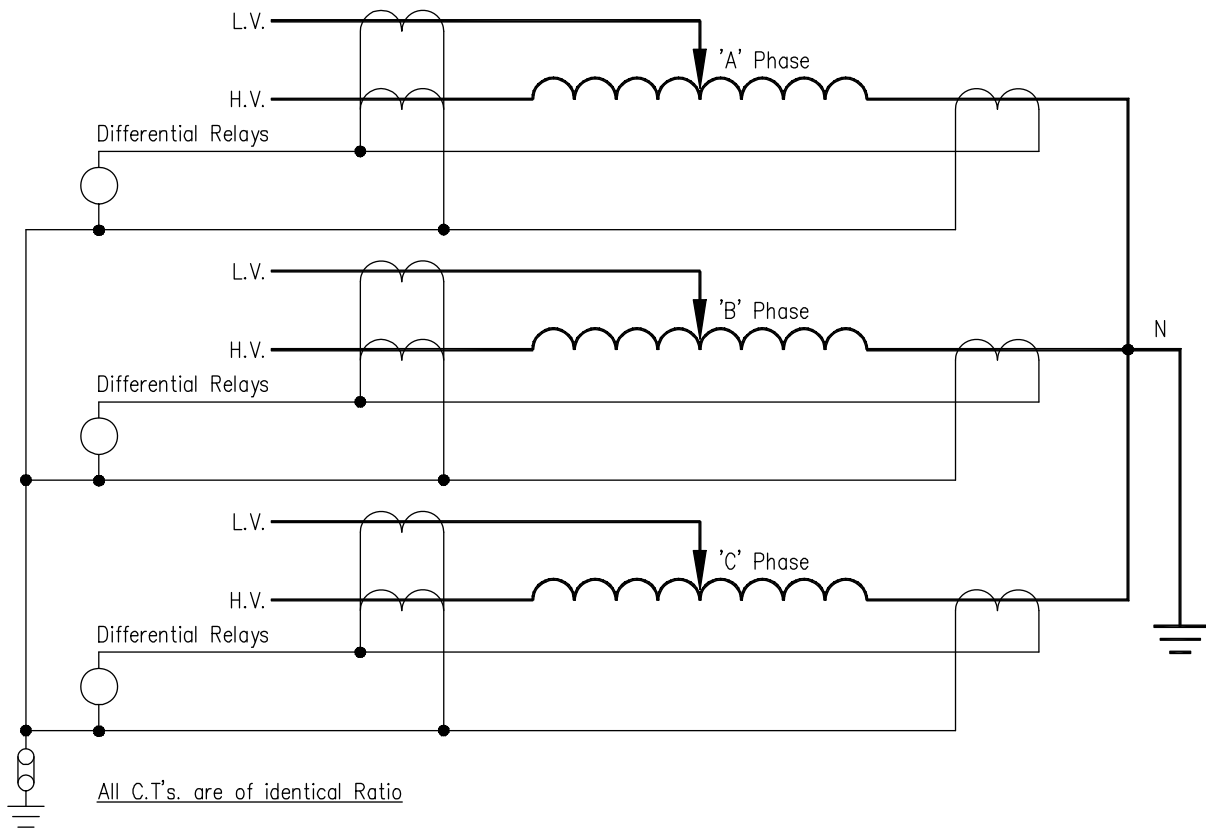
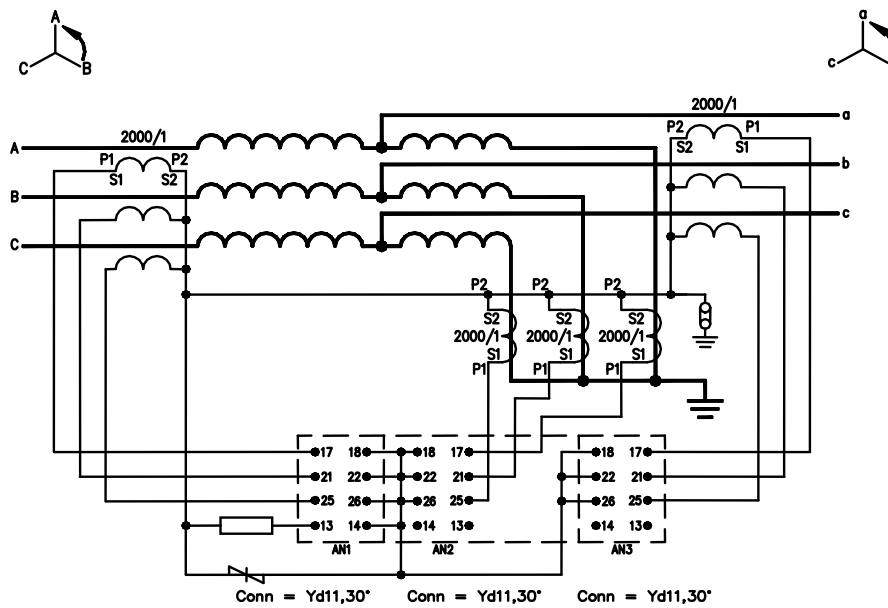
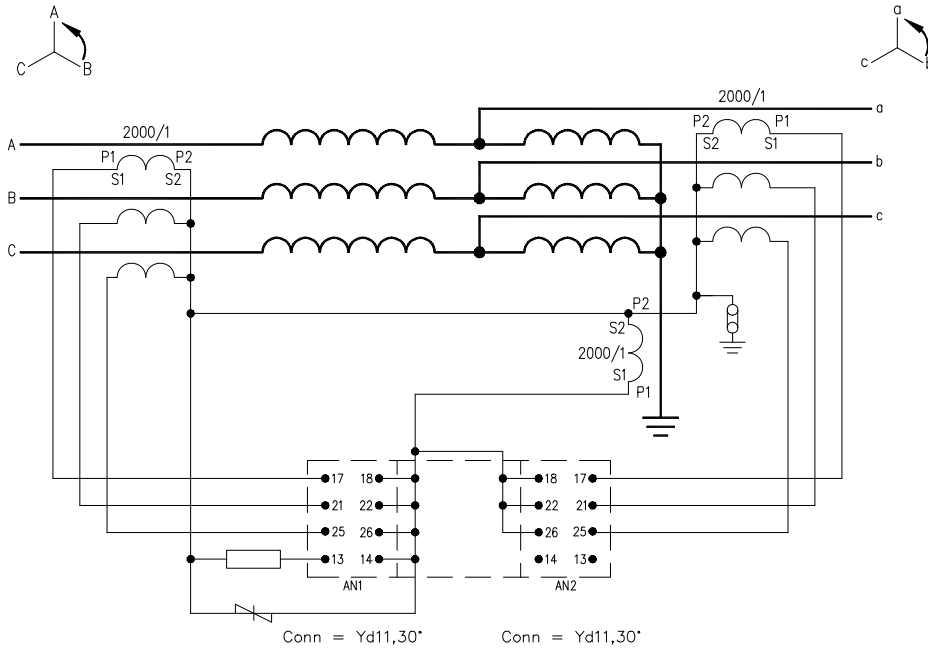
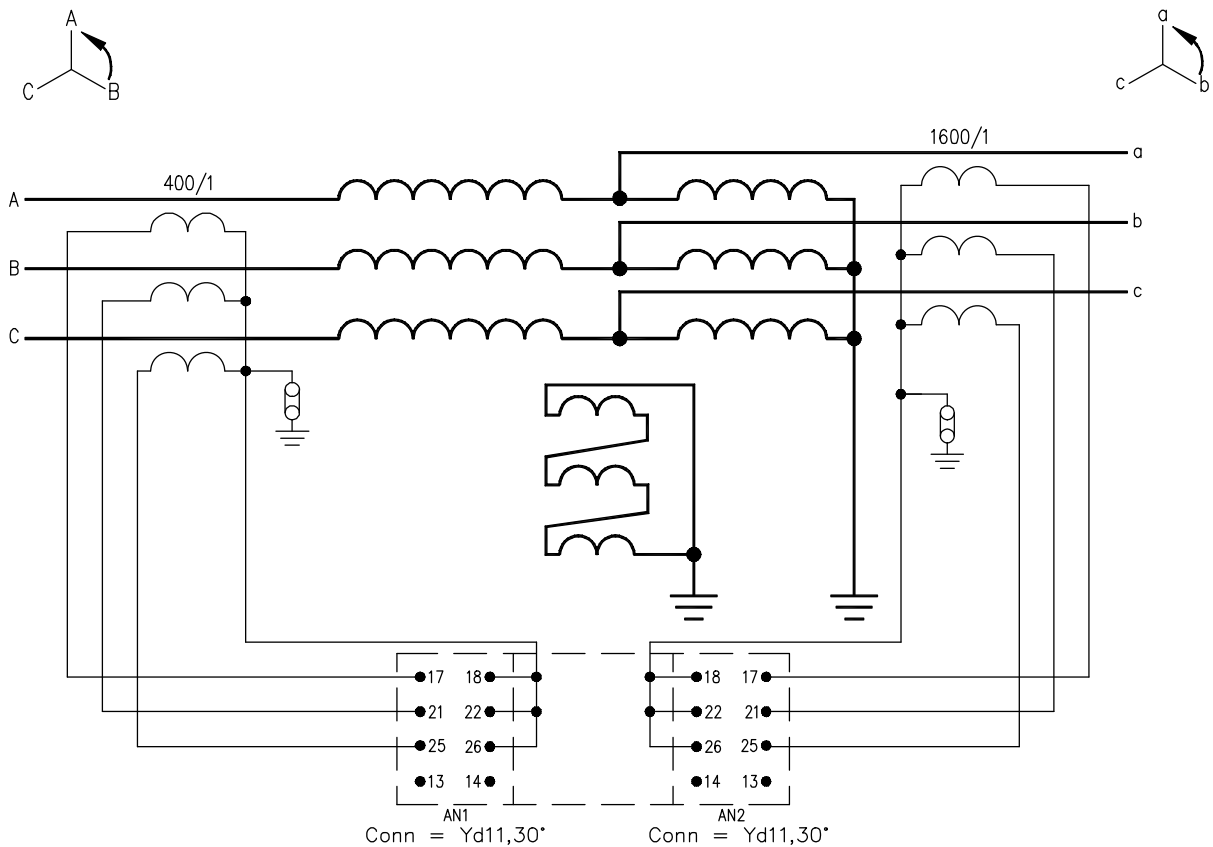

Figure 15 - Traditional High Impedance Transformer Protection
Figure 16 - Recommended Method of Auto Transformer Protection
Figure 17 - Alternative Application to an Auto Transformer
Figure 18 - Autotransformer with Biased Differential Protection
Two common arrangements are shown in Figure 15 and Figure 16. It can be seen that the need for neutral and connection CTs can be eliminated but at cost. The H.V. and L.V. and neutral end CTs must now have ratios appropriate to the rated voltage of their associated windings and the ratios must be optimized as shown in Figure 17.
An alternative scheme for auto transformer protection is shown in Figure 17. This scheme gives REF protection and hence is more comprehensive than the Figure 18 scheme but all line and neutral CTs must have the same ratio. The interposing CTs in the Duobias-M must have the ratio of the primary voltages. For instance, with a 400/275 kV auto transformer, the interposing CTS on module B (HV) should be set to a ratio of 1.45/1 and on Module C (LV) should be set to 1/1. These interposing CTs must be configured in a star/delta mode as indicated above. Where only one neutral CT is present as shown in Figure 17, the Magnetizing Inrush Inhibit must be set to [Enabled] as the magnetizing inrush currents in each phase will not balance. The overall earth fault high impedance zone can still be used.
The auto transformer shown in Figure 18 can be treated in the same way as the double wound, star/star transformer shown in Figure 13 and will have the same interposing CT connection settings. It is not equipped with neutral CTs however so it cannot have R.E.F. protection.